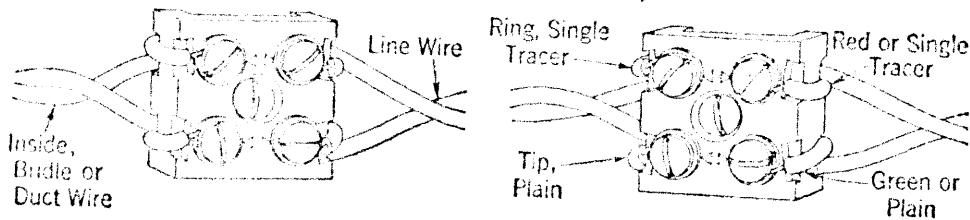

Fig. 2.
- (a) Place free ends of conductors into grooves of block in accordance with the arrangement shown in either Fig. 2, 3 or 4 (whichever figure applies).
- (c) Temporarily form conductors into place as shown in either Fig. 2, 3 or 4 and then lay each conductor over face of its associated terminal screw.